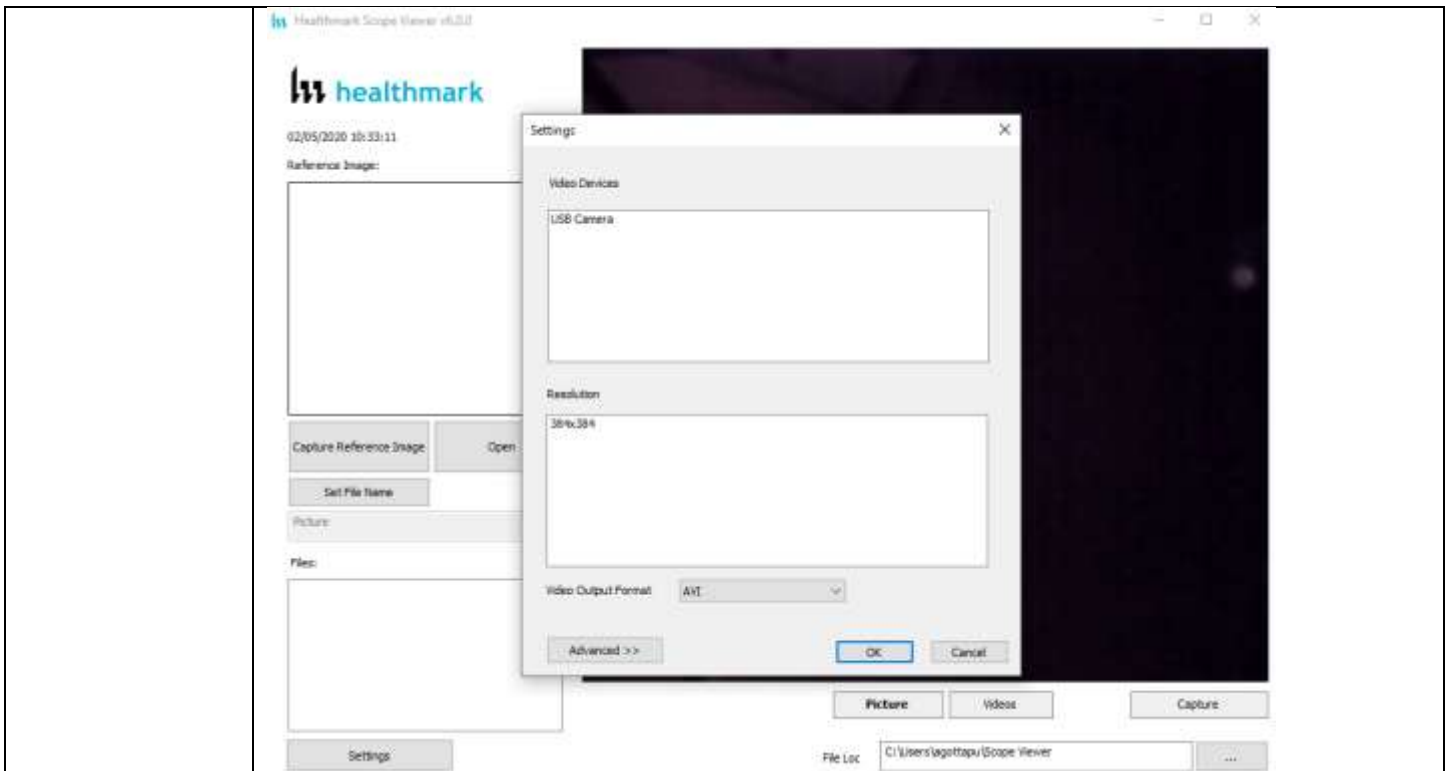

Figure 5
2. Select *USB Camera* for the Flexible Inspection Scope to capture **images (Fig. 5)**